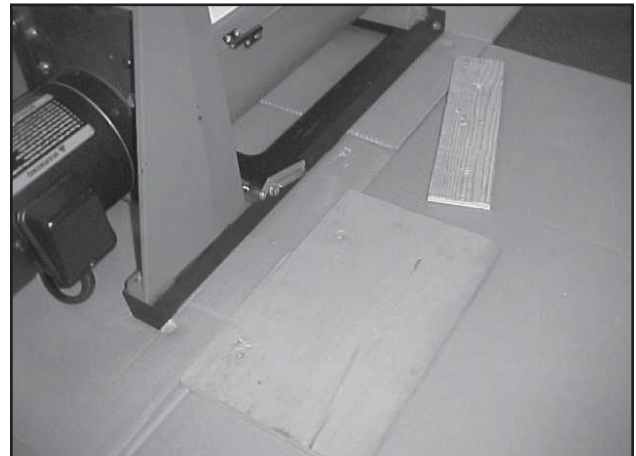

Fig. 3 Remove packing plates
4. Remove two wood packing plates from bottom of sanding unit. (Fig 3)
Before operating height adjustment, be sure the packing-block is removed. It is located under the outboard end of the carriage arm (Fig. 3). Raise drum/brush to remove.